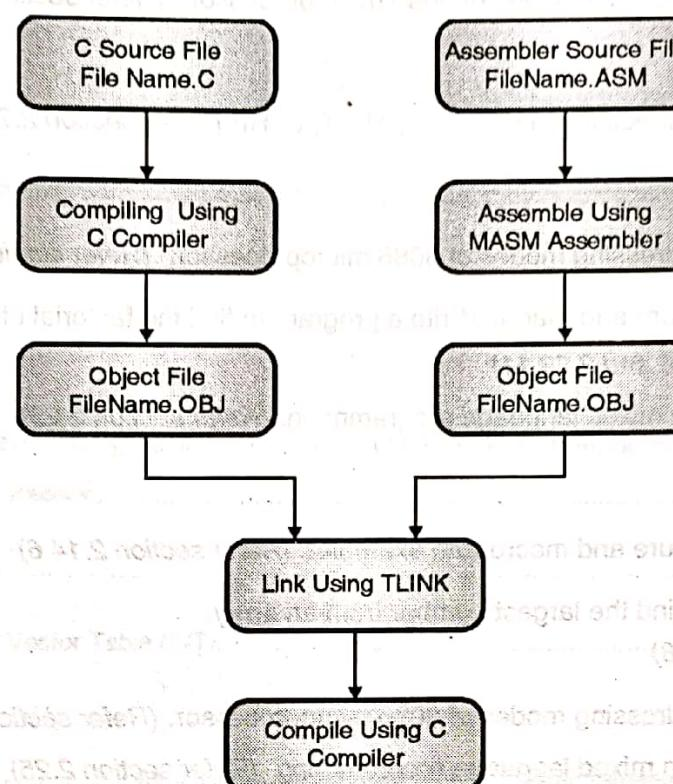

Fig. 2.25.1
- Fig. 2.25.1 below shows Compile, Assemble, and link processes using C compiler, MASM Assembler and TLINK.